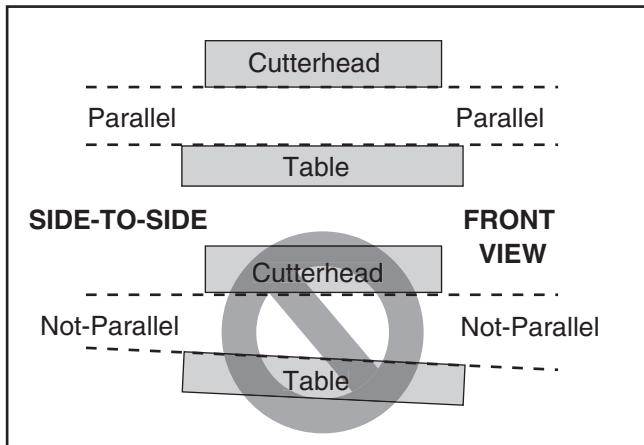

Figure 75. Side-to-side parallelism of table and cutterhead.
Table parallelism is critical to the operation of the planer. As such, it is essential that the planer table is parallel with the cutterhead (within 0.002") from side-to-side, as illustrated in **Figure 75**.
- If the table is not parallel to the cutterhead side-to-side (**Figure 75**), loosen the two lock nuts on the right or left side of the cylinder liner. Adjust the set screws to raise or lower the table so it is parallel to the cutterhead.